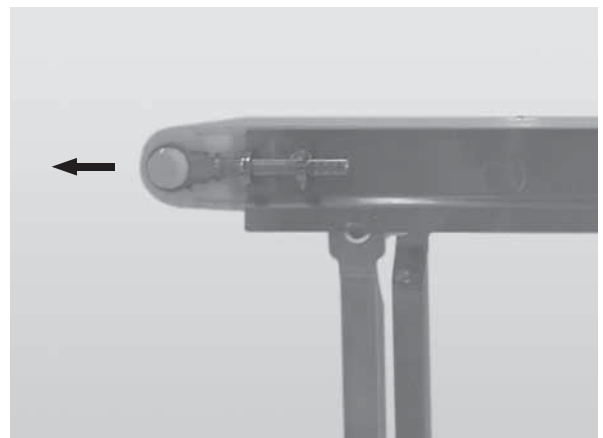

Figure 67
3. Continue extending the tension end until the belt is sufficiently tight (**Figure 67**).